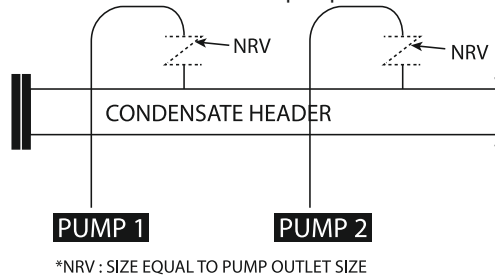

Figure 6: More than one pump connected to common condensate line
5.2 In case more than one condensate pump is connected to a common Condensate line: (Refer to Figure 6)